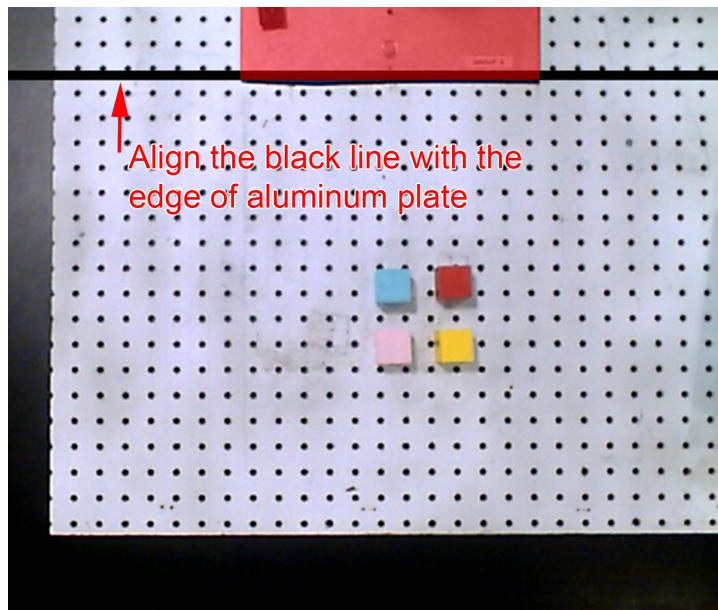

Figure C.1: Check if your camera is in place.
- Then you will see a window with live footage from the camera (Figure C.1). Please make sure your camera is pointing straight down (so that the camera frame is parallel to the table); meanwhile, verify that the black line showing in the footage is aligned with the front edge of the aluminum plate.